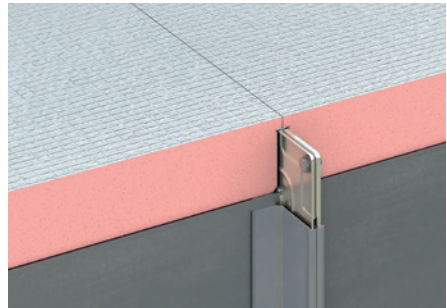

Figure 28: Flange is covered by minimum 5 mm insulation
- When the thickness of insulation is at least 5 mm more⁴ than the size of the flanges, sheets of insulation material should be pushed tight against the flange on both sides to give at least 5 mm cover⁴, as shown in Figure 28 above.